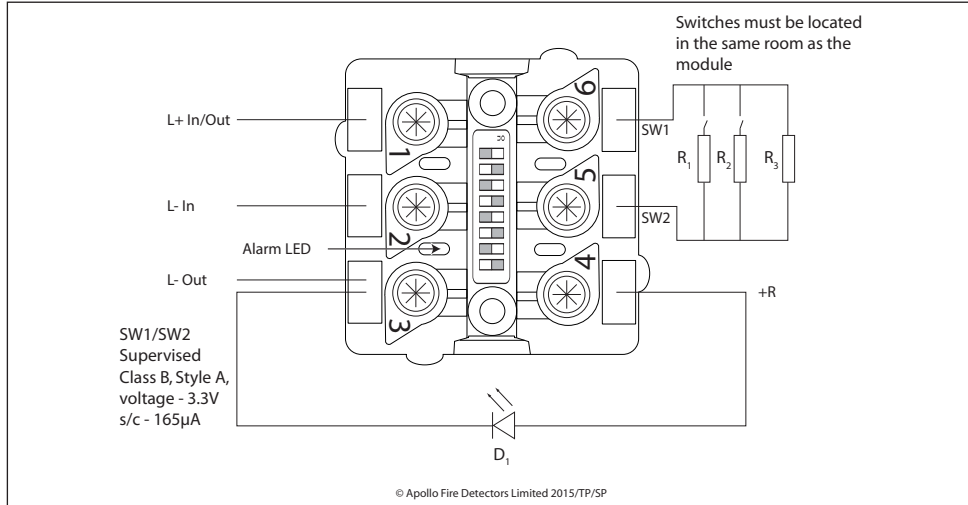

Fig. 1 – Connections to the Terminals.
1. Connect loop wiring to the SEMS terminals as shown in **Fig 1**.
4. See **Fig 1** for wiring options.